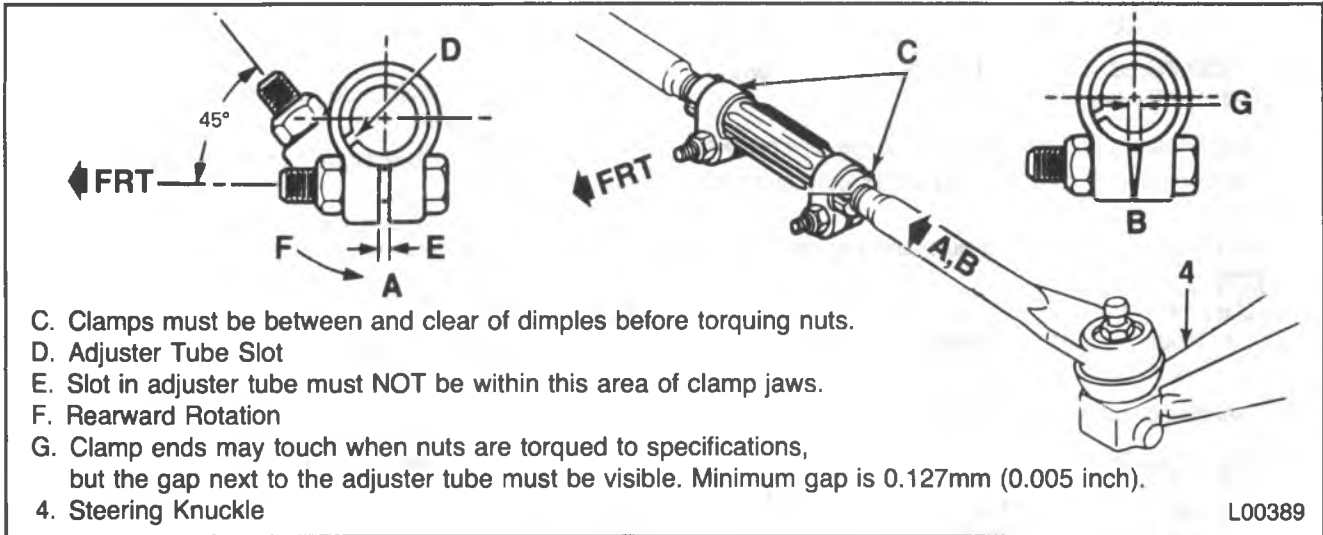

Figure 13 — Tie Rod Clamp and Adjuster Tube Positioning — R-Models
Adjust (Figures 13, 14 and 15)
6. Adjuster tube clamp bolts (figures 13, 14 and 15). Before tightening the clamp bolts, be sure the following conditions have been met:
- The clamps must be positioned within the angular travel shown in figures 13, 14 and 15.
- The clamp ends may touch when the nuts are torqued to specification, but the gap next to the adjuster tube must NOT be less than the minimum dimension shown in figures 13, 14 and 15.